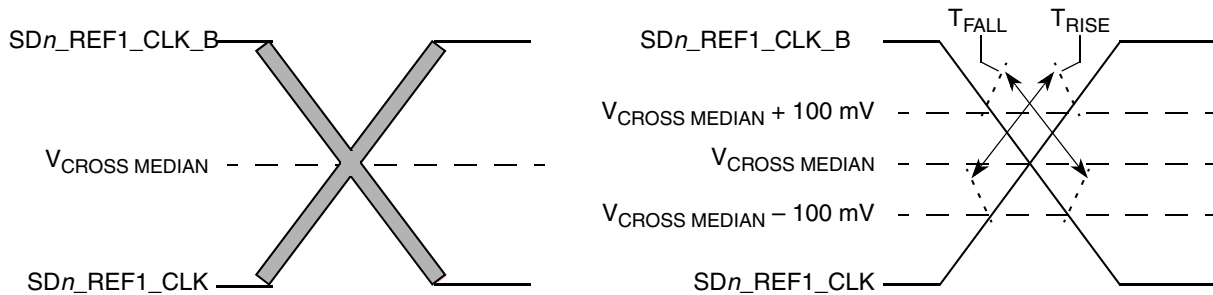

Figure 38. Single-ended measurement points for rise and fall time matching
- Matching applies to rising edge for SD_n_REF1_CLK and falling edge rate for SD_n_REF1_CLK_B. It is measured using a 200 mV window centered on the median cross point where SD_n_REF1_CLK rising meets SD_n_REF1_CLK_B falling. The median cross point is used to calculate the voltage thresholds that the oscilloscope uses for the edge rate calculations. The rise edge rate of SD_n_REF1_CLK must be compared to the fall edge rate of SD_n_REF1_CLK_B, the maximum allowed difference should not exceed 20% of the slowest edge rate. See Figure 38.